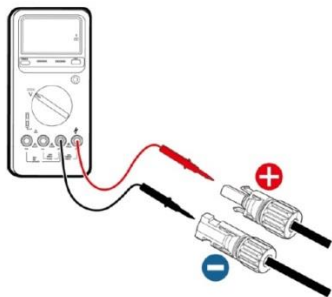

Fig 5.3 Measuring DC input voltage
(2) After the DC connector is connected, use a multimeter to measure the voltage of the DC input string, verify the polarity of the DC input cable, and ensure that the voltage of each string is within the allowable range of the inverter, as shown in Fig 5.3.